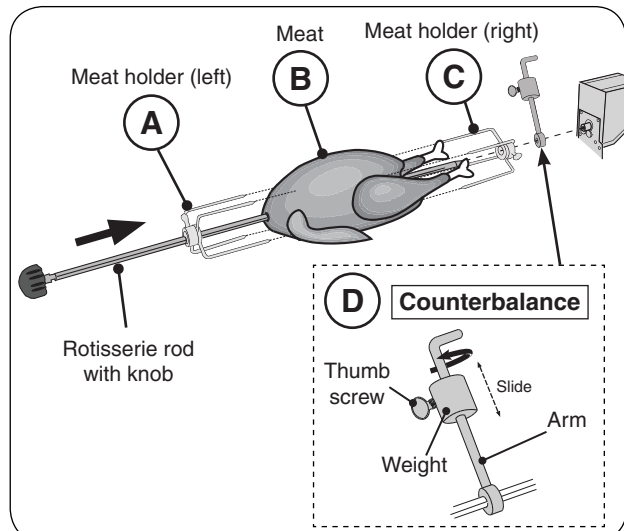

Fig. 32-3 Assemble rotisserie rod for cooking
4. Slide the left meat holder onto the rod and tighten (see Fig. 32-3, A).
5. Then slide meat onto the rod, followed by the right meat holder (see Fig. 32-3, B and C).
8. The counterbalance may then be attached to even weight distribution. Slide the counterbalance onto the rod next to the right meat holder (see Fig. 32-3, D). Loosen the arm and point it upward opposite the heavy side of the meat. Tighten the arm.
9. Slide the counterbalance weight up or down the arm until the rod rotates most evenly then tighten thumb screw (see Fig. 32-3, D).